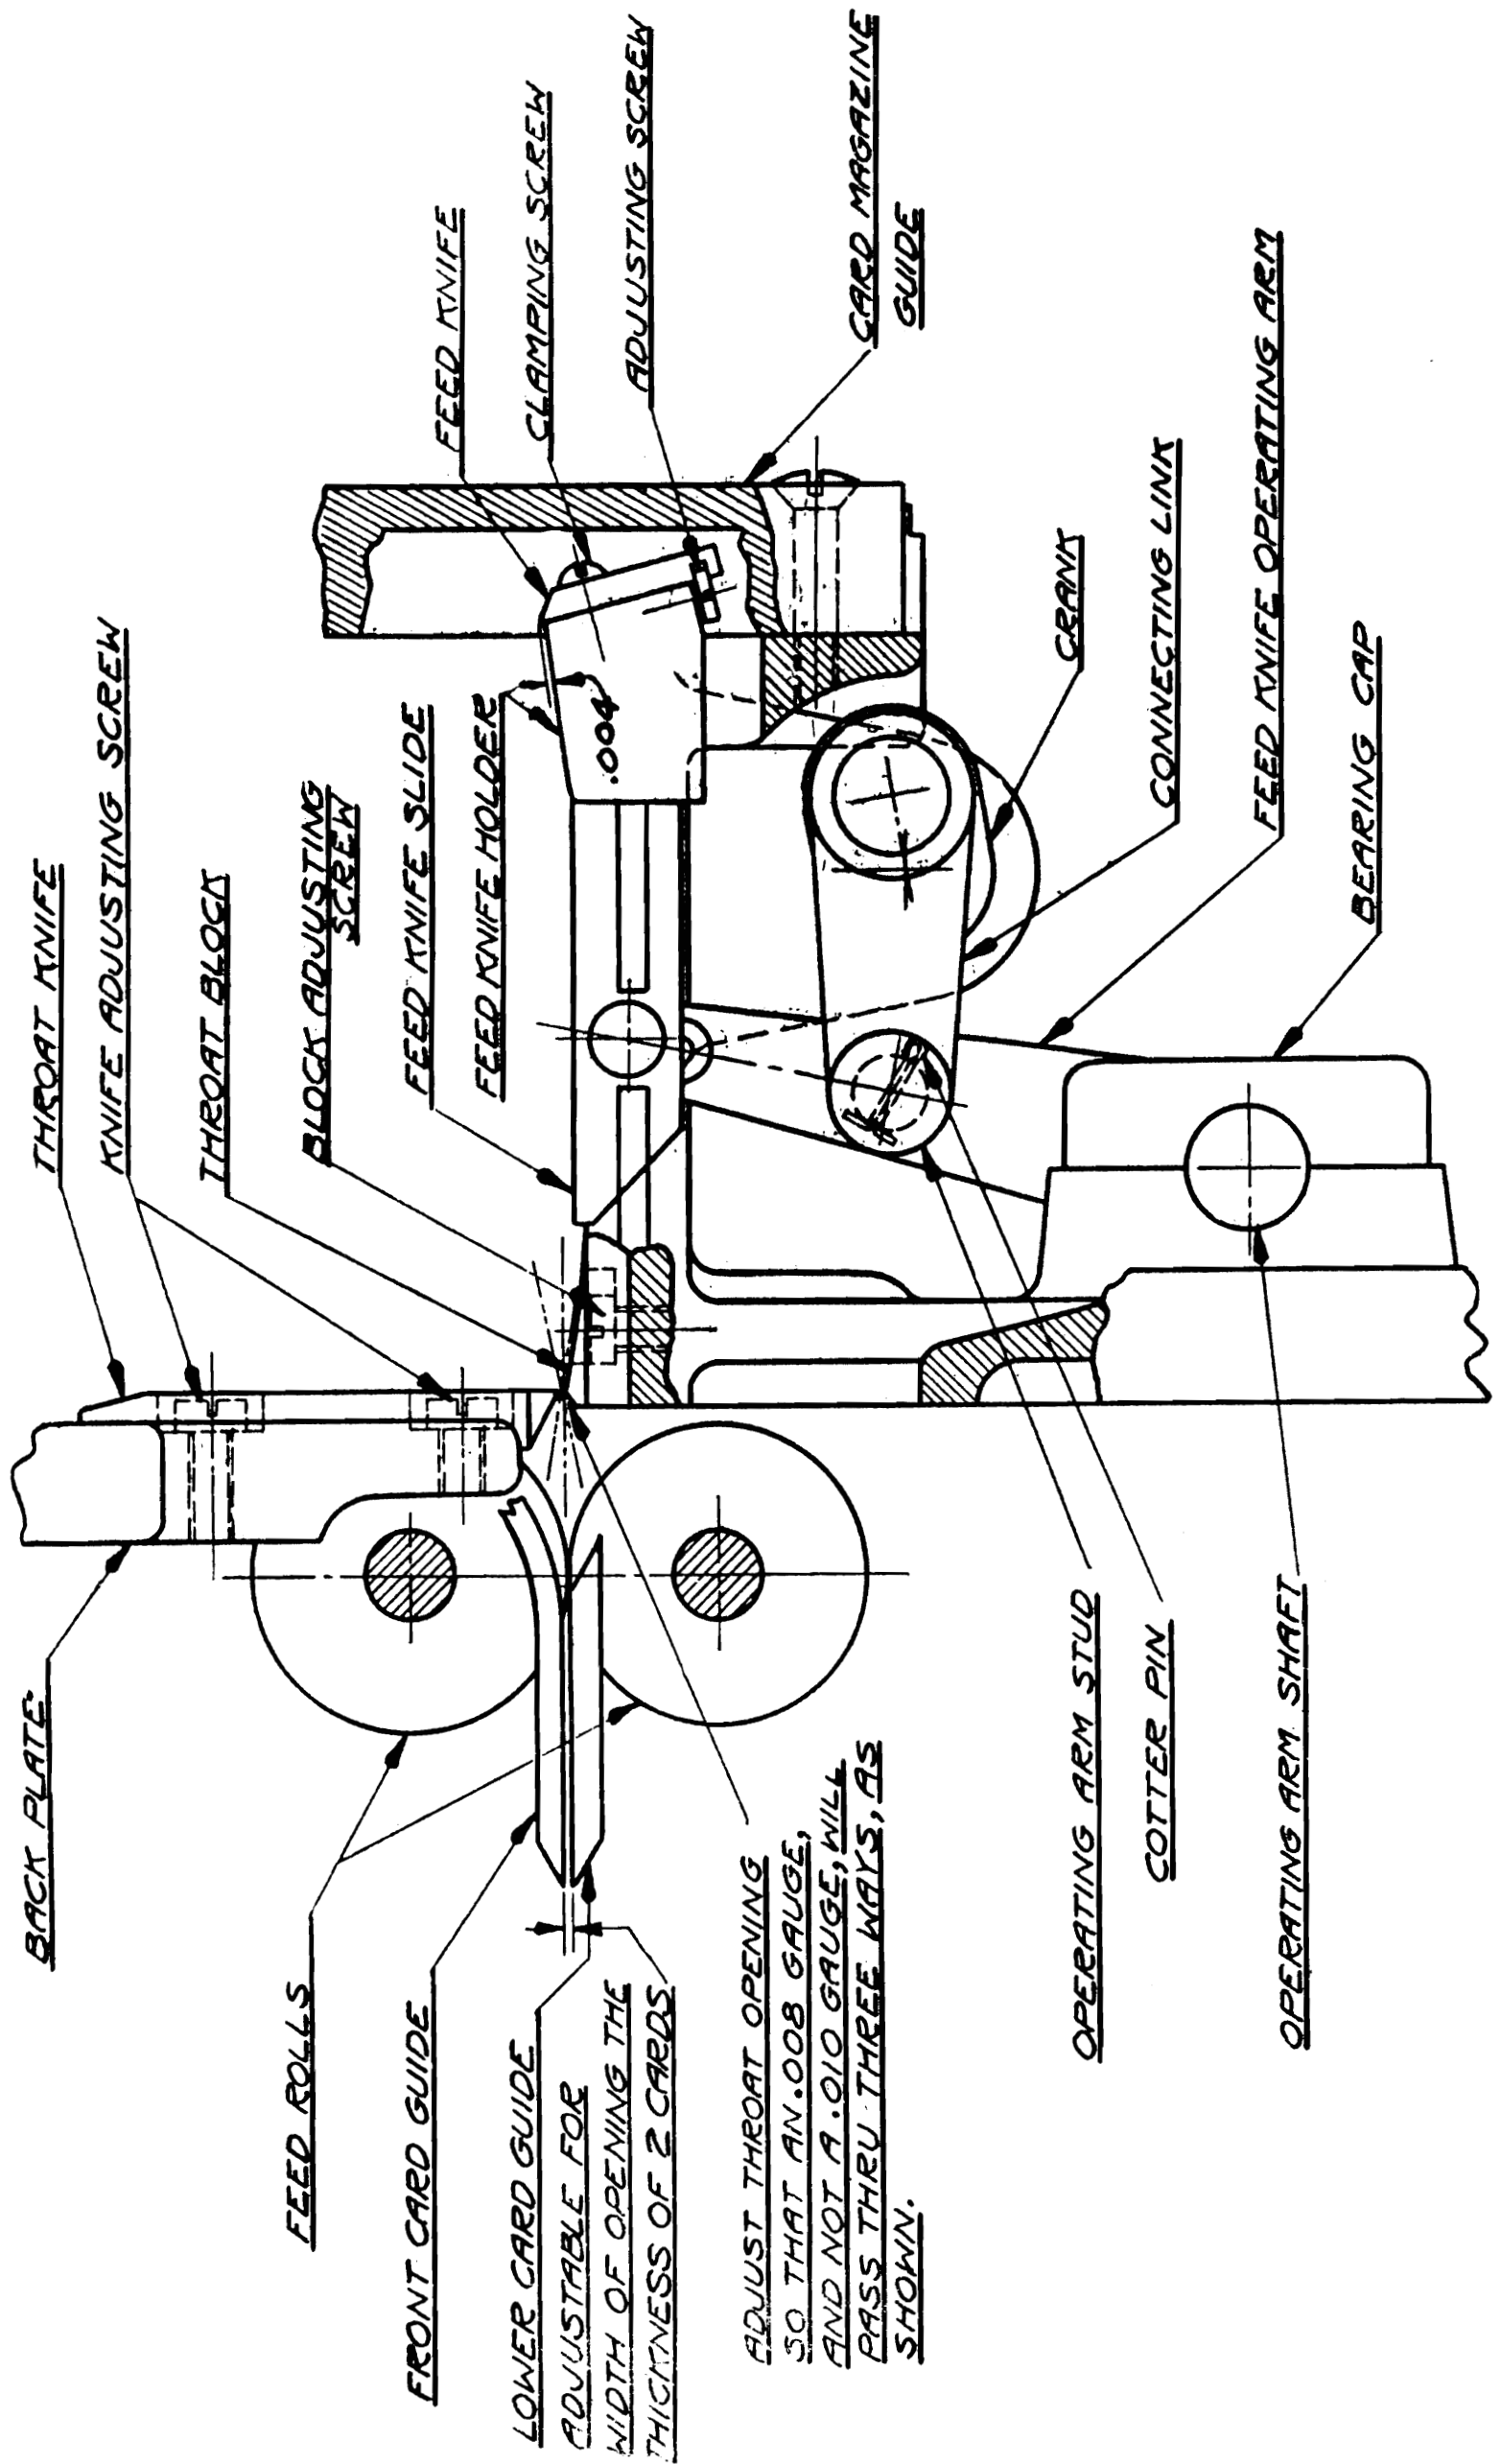

FIG. 9
#### THE THROAT AND CARD KNIVES (See fig. 9)
The throat block and throat knife should be so adjusted that an .008" and not a .010" thickness gauge will pass thru the opening three ways as shown in fig. 9. To obtain this adjustment proceed as follows: Raise the throat knife slightly and move the throat block until its high point is directly in line with outside surface of the throat knife, move knife down until the .008" and not the .010" thickness gauge will go thru the opening horizontally. Then set the throat knife adjusting screws. If the throat knife and throat block have been properly set, the .008" and not the .010" thickness gauge will pass thru the opening, (1) horizontally, (2) at an angle of about 30 degrees, and (3) should follow thru when held down on the radius of the throat block.
The card feed knives are adjustable and should be set evenly on each side for a projection of .004" to .0045". A gauge is provided with two notches in it at opposite ends, one notch marked "GO" is cut .0045" deep and the opposite end marked "No Go" is cut .004" deep. When adjusting the card knives it is necessary to first remove the card magazine guides and then loosen the clamping screws that hold the knife in place and turn either in or out on the adjusting screws as the case may be to raise or lower the feed knife (See fig. 9). If the knife is properly adjusted the "Go" end of the gauge will pass over the feed knife on either side, and the "No Go" end will not pass over the projection. The knife must project evenly all the way across and it is obvious that both knives must be adjusted alike.
Remove both front card guides (See fig. 9).